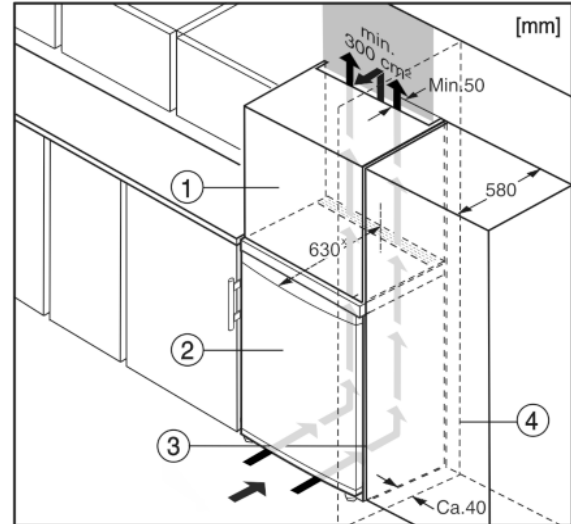

Fig. 8
- (1) Stack cabinet
- (2) Appliance
- (3) Kitchen cabinet
- (4) Wall
The appliance can be built into kitchen units. A top cupboard Fig. 8 (2) can be added above the appliance in order to bring the appliance Fig. 8 (1) up to the height of the fitted kitchen units.
When installing with kitchen units (max. depth 580 mm), the appliance can be positioned directly next to the kitchen cabinet Fig. 8 (3). The appliance will project by 34 mm * at the sides and 50 mm * in the centre of the appliance in relation to the kitchen cabinet front.
If the appliance is installed with the hinges next to a wall Fig. 8 (4), the distance between appliance and wall has to be at least 40 mm. This corresponds to the projection of the handle when the door is open.